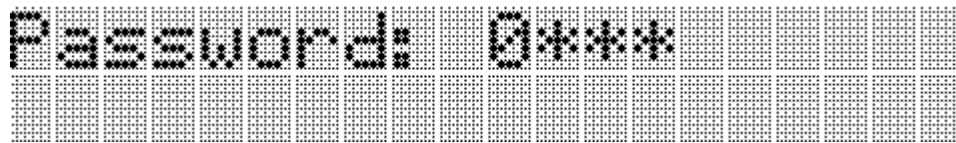

Figure 3.3 LCD password entry screen
3.2.2. Press the green button and red button at the same time until the LCD screen changes to the password entry screen. See Figure 3.3.
The LCD screen changes to the password entry screen. See Figure 3.3.